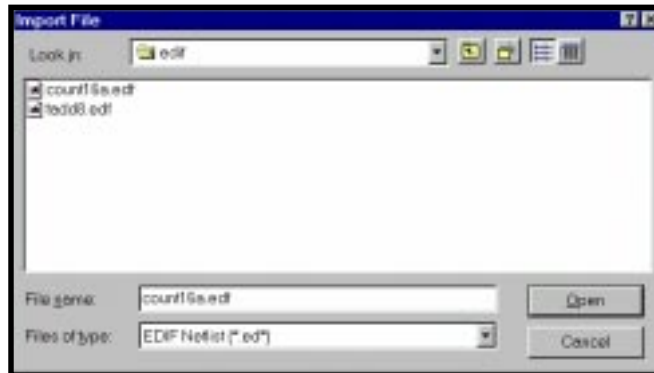

Figure 3-29. Import File Dialog Box
2. Choose EDIF Netlist (\*.ed\*) from the Files of Type field of the Import File dialog box (Figure 3-29). And then select the EDIF file you want to import.